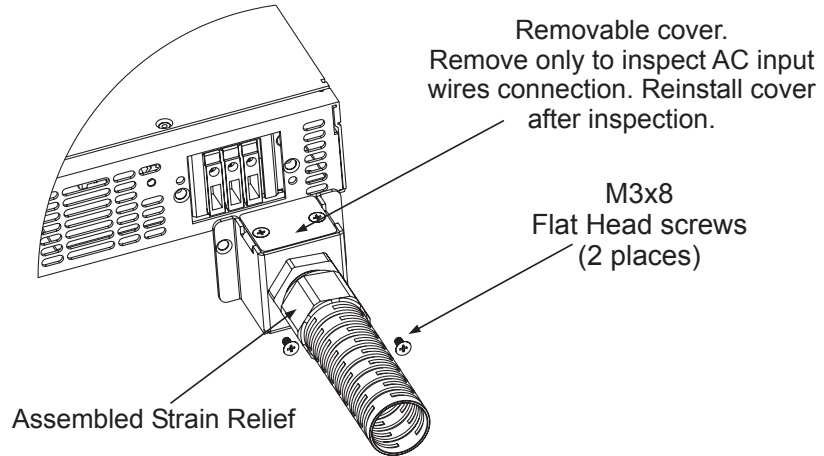

Fig.3-3: AC input cover and strain relief, 1500W models
- 5.Route the wires inside the cover to prevent pinching. Fasten the cover to the unit using the M3x8 Flat Head screws are provided. Strain relief cover could be opened for inspection. Refer to Fig.3-3 for details.